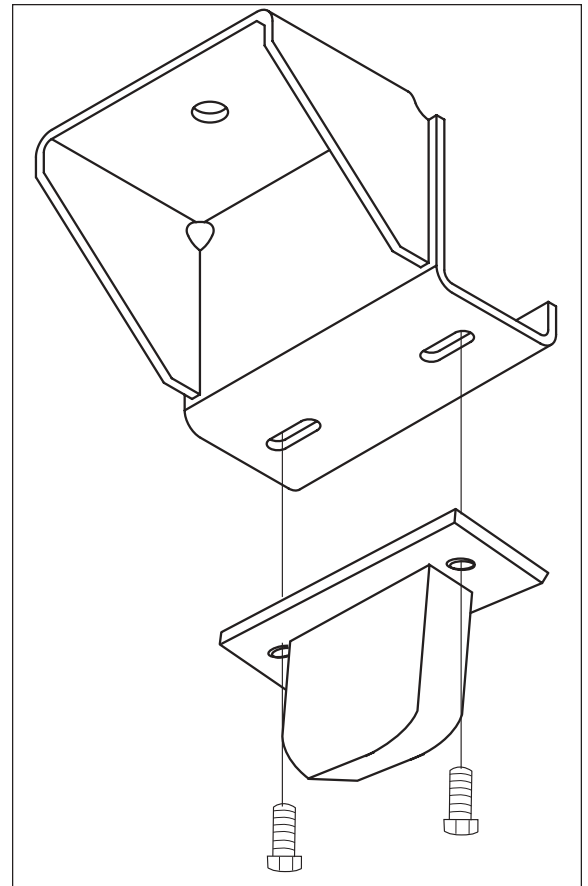

Figure 5
5. Reattach the jounce bumper by inserting the stock bolts saved from step 2 through the jounce bumper, upper mounting bracket, and frame. Leave loose at this time (Figure 5).